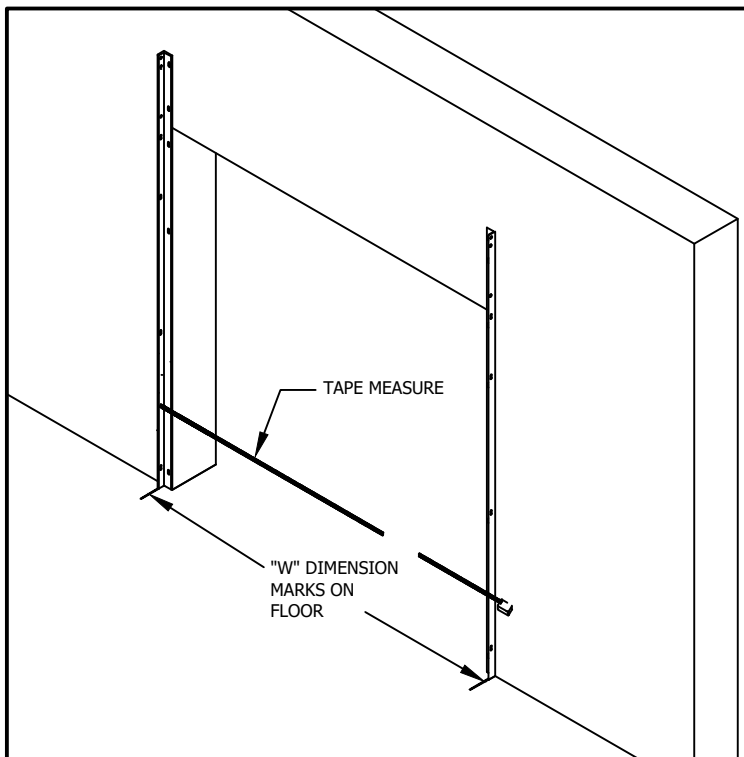

FIGURE 8
- c. Install second Wall Angle by placing it at the "W" dimension marked on the floor at the second jamb as shown in Figure 8. Shim if necessary.
- d. Use a tape measure while attaching the second wall angle to maintain a consistent "W" dimension all the way to the top as shown in Figure 8.